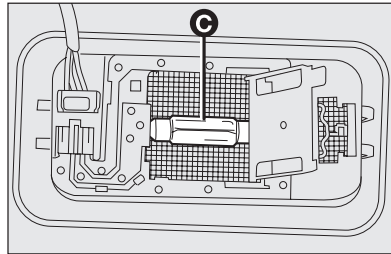

fig. 27
- replace bulb **C**-fig. 27 releasing it from the side contacts. Then, insert the new bulb making sure it is correctly clamped between the contacts;